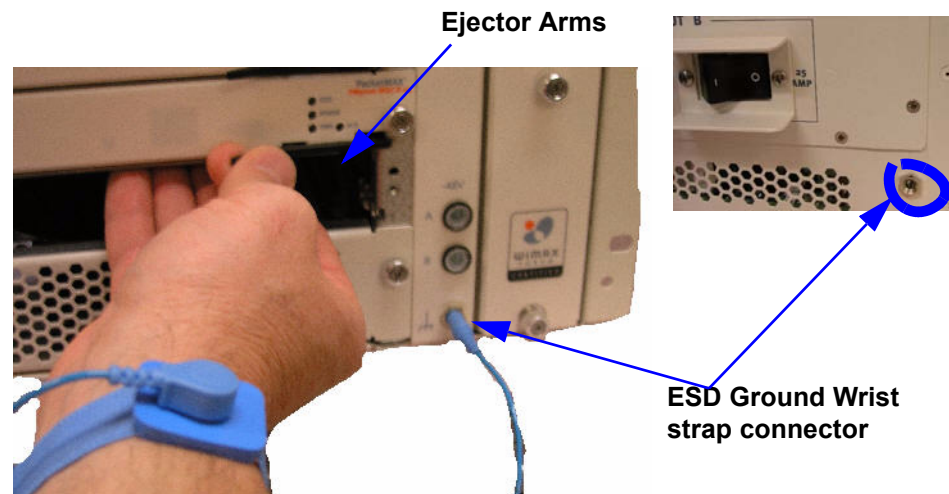

Figure 3-4 Ground Strap Connector- Front and Rear Panel
- C. Before handling and installing the MSC and WSC cards, be sure to ground yourself by attaching a ESD strap to your wrist and connecting it to one of the ESD connectors (See Figure 3-4).